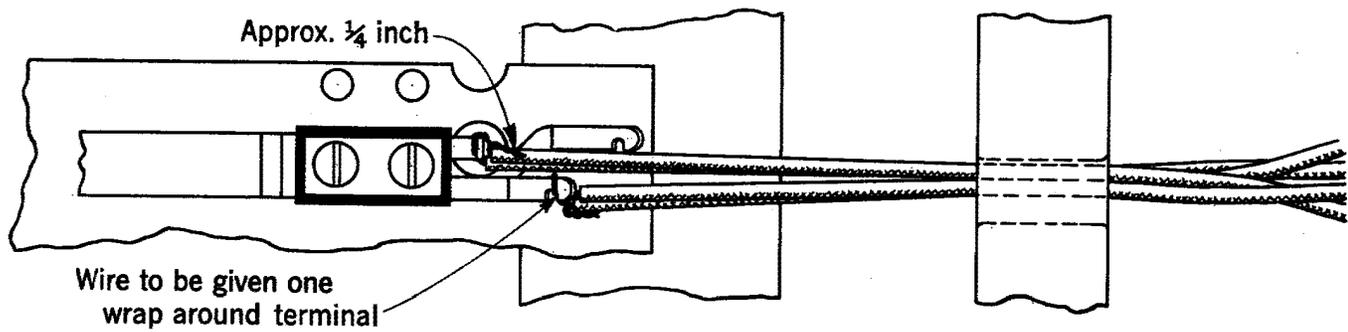

Fig. 17 - Temporary Cross Connections on Protectors
12.01 When making transfers or rearrangements, it is often necessary to make use of temporary (back-tap) cross connections. Figs. 17 through 22 show the methods for terminating these cross connections on terminals arranged for soldered connections. The word “temporary” as used herein, refers in each case to the jumper which is to be removed when the permanent arrangement is completed.
12.04 Leave a short tail of wire on the permanent jumper at the terminal. Connect the temporary jumper to this tail of wire by twisting the two wires together. Solder the twisted wires and cut off the excess leaving approximately 1/4 inch of the wires. Then bend the wires back along the jumper wire to avoid snagging. (See Fig. 17.)